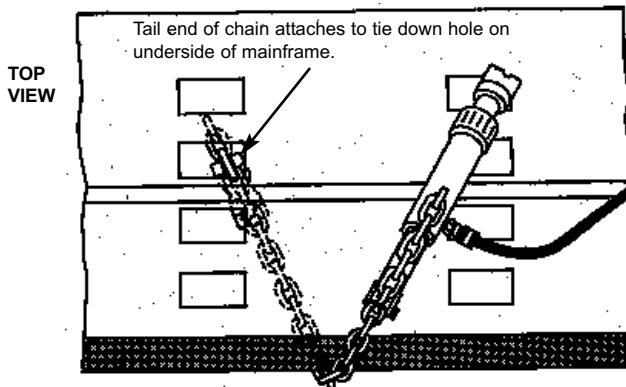

Figure 11
1. Position auxiliary ram assembly at desired angle securing v-base attachment in corner of tie down hole. (See Figure 11.)
- IMPORTANT:** Tail end of chain must be secured at opposite angle to auxiliary ram. (See also Figure 11.)